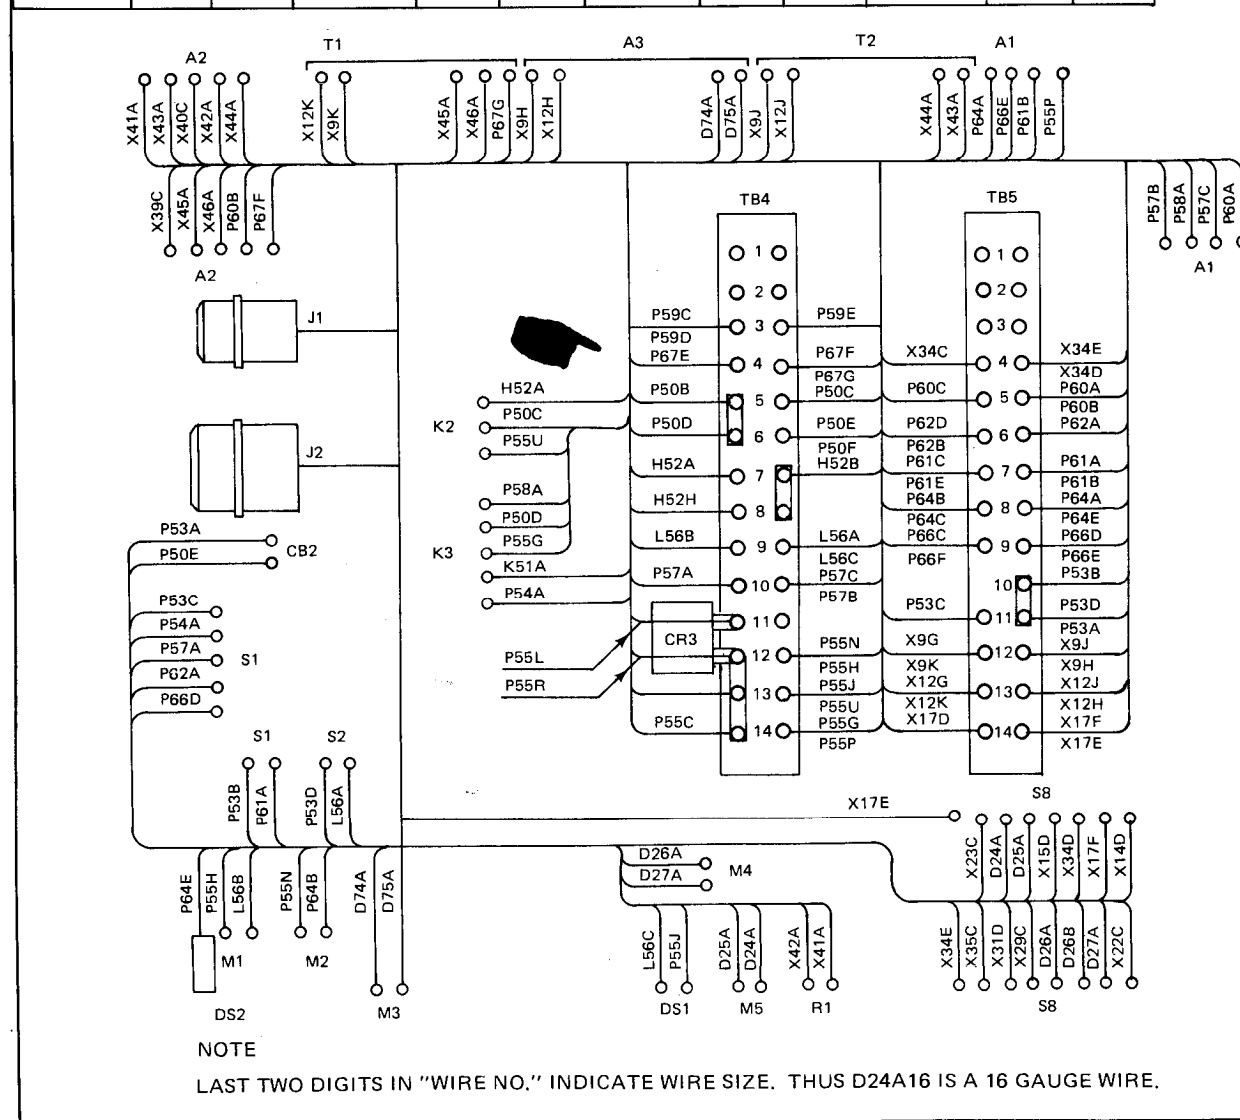

Figure 6-1. Control Cubicle Wiring Harness
(1) Remove. Disconnect wires of wiring harness from all components. Remove clamp attaching harness to control panel and remove harness.
(2) Repair. Table 6-1 lists the wire number, gauge, color, length and terminal lugs for each wire in the harness. Repair consists of replacing wires as required.
(3) Installation. Install harness by connecting wires to components per figure 6-1. Attach harness to control panel with clamp.